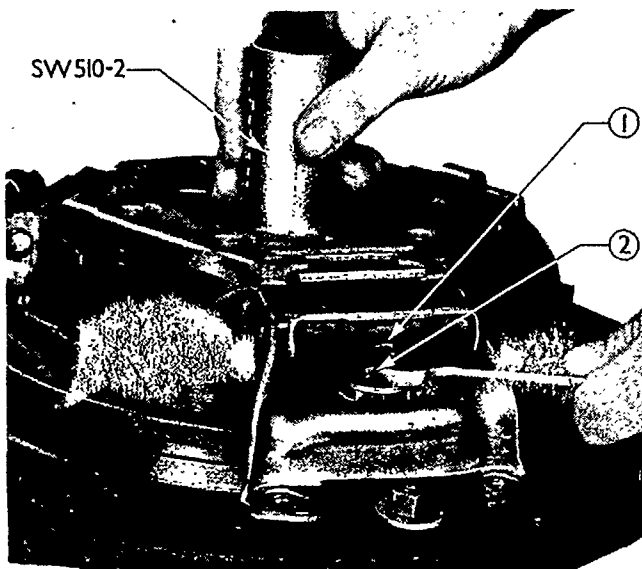

Figure 41
12. Where a release lever requires adjustment loosen the locknut as shown in Figure 41, and raise or lower the release lever by turning the adjuster screw, while rotating the Release Lever Gauge, SW510-2, across the release lever end. Retighten the adjuster locknut.